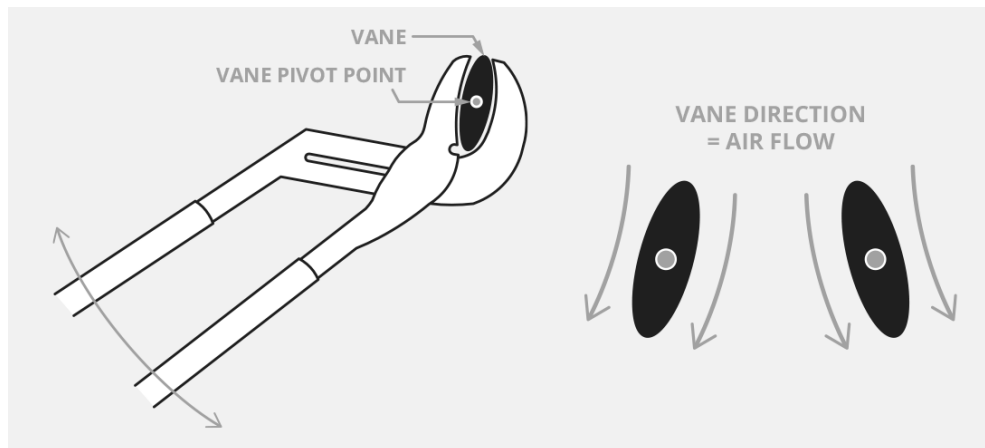

Figure 5. Steering Vane Adjustment
- b. Grip left end of vane with channel locks (see Figure 5) and rotate it in direction of desired air flow.